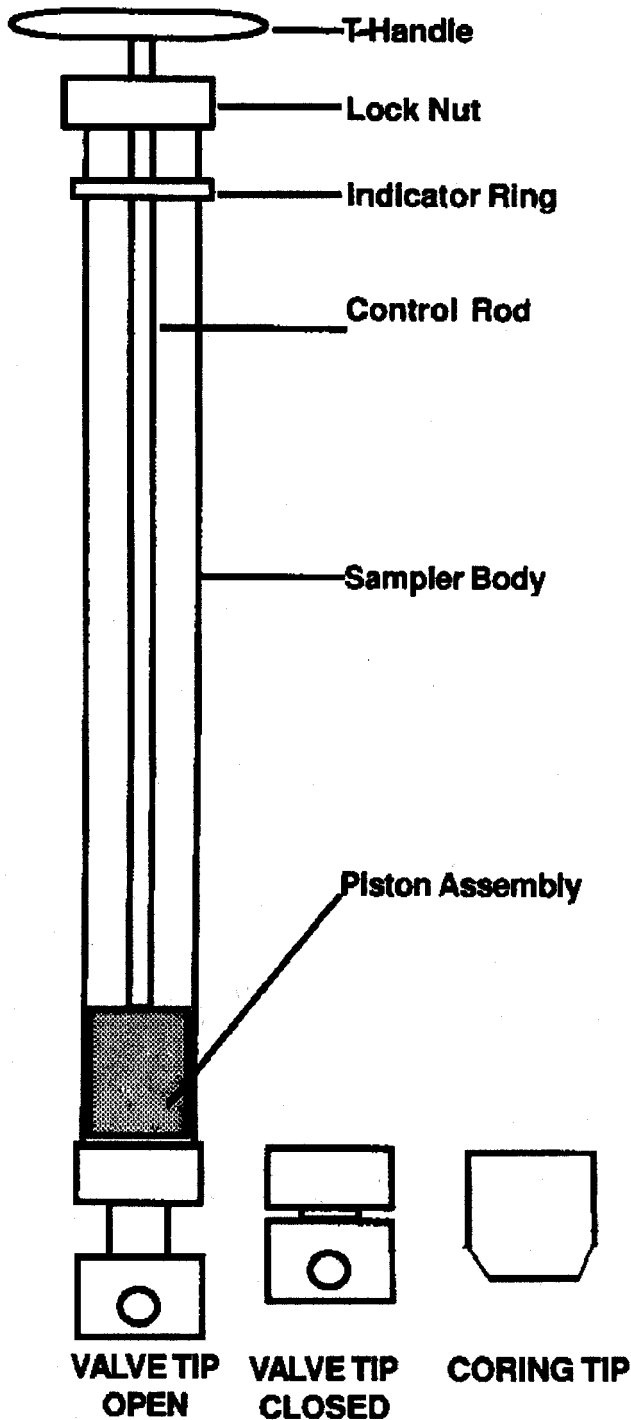

FIG. 5 Syringe Sampler
6.5.1 *Description*—The Syringe sampler is a hollow tube type sampler with a bottom fill valve. A Syringe sampler normally consists of a piston assembly with a T-handle, safety locking nut, and control rod (PTFE-covered aluminum to facilitate operation of the piston), a piston body assembly, a sampling tube assembly, and a standard bottom valve or coring bottom (see Fig. 5).